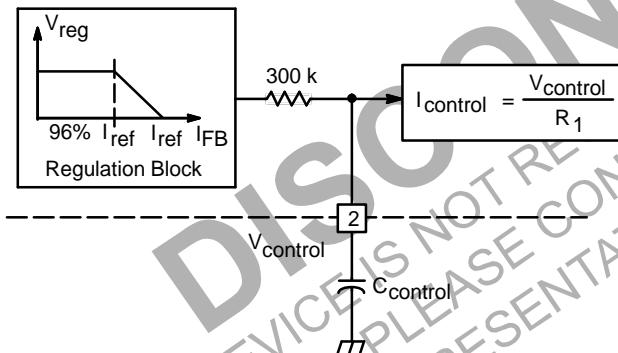
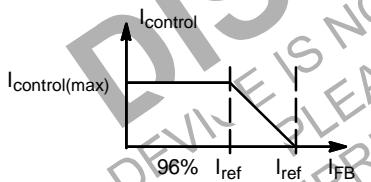

Figure 30. $V_{control}$ Low-Pass Filtering
Figure 32. Regulation Block
Control current $I_{control}$ is a roughly constant current that comes from the PFC output voltage V_{out} that is a slowly varying signal. The bandwidth of $I_{control}$ can be additionally limited by inserting an external capacitor $C_{control}$ to the control voltage $V_{control}$ pin (Pin 2) in Figure 30. It is recommended to limit $f_{control}$, that is the bandwidth of $V_{control}$ (or $I_{control}$), below 20 Hz typically to achieve power factor correction purpose. Typical value of $C_{control}$ is between 0.1 μF and 0.33 μF .
Feedback current I_{FB} which represents the output voltage V_{out} is processed in a function with a reference current ($I_{ref} = 200 \mu\text{A}$ typical) as shown in regulation block function in Figure 32. The output of the voltage regulation block, low-pass filter on $V_{control}$ pin and the $I_{control} = V_{control} / R_1$ block is in Figure 30 is control current $I_{control}$. And the input is feedback current I_{FB} . It means that $I_{control}$ is the output of I_{FB} and it can be described as in Figure 32. There are three linear regions including: (1) $I_{FB} < 96\% \times I_{ref}$, (2) $96\% \times I_{ref} < I_{FB} < I_{ref}$, and (3) $I_{FB} > I_{ref}$. They are discussed separately as follows: